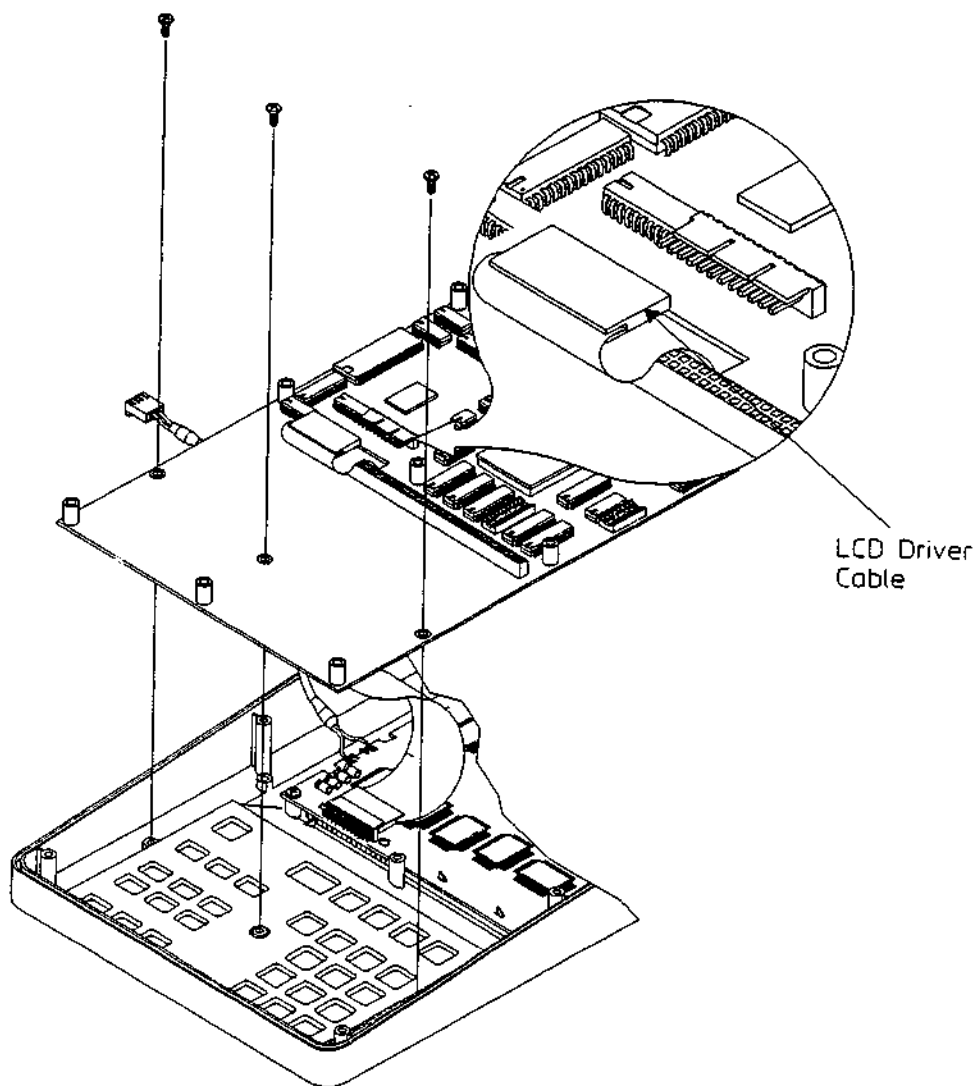

Figure 8-5.
1. Remove the three screws holding the A1 assembly as shown in figure 8-5.
2. Carefully disconnect the LCD driver cable and push it through the slot so it is under the A1 assembly as shown in figure 8-5.